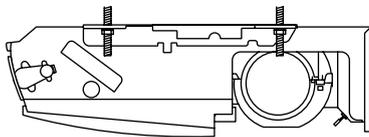

Fig. 3-47
c) Tighten the 2 hexagonal nuts on each suspension bolt to suspend the indoor unit (Fig. 3-47).